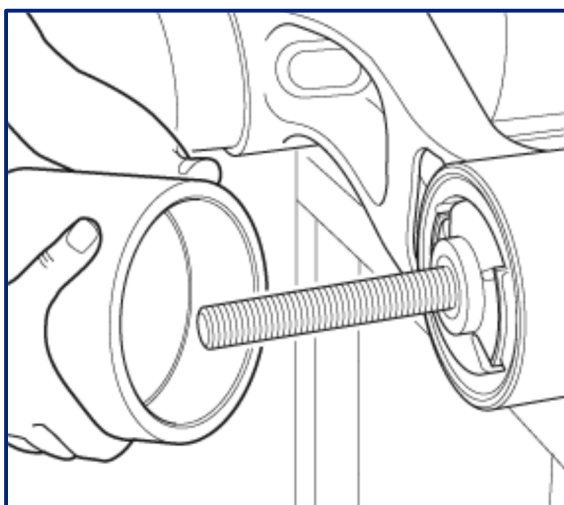

Fig 19
12. Push funnel "D" onto the trailing arm outer tube opposite the FBT "C" (Recess facing towards pivot bush) (Fig 19).
13. Attach the Rear Bush Tool (RBT) "F" to the funnel "D" and secure in place with the bearing cups, bearing race "B" and nut "A" (Fig 19 & 20)